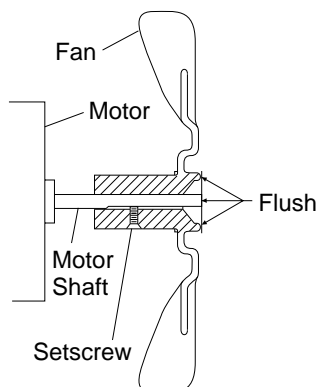

Figure 4 - Fan Cross Section
6. Replace fan on motor shaft. Place fan hub flush with end of motor shaft (see *Figure 4*).